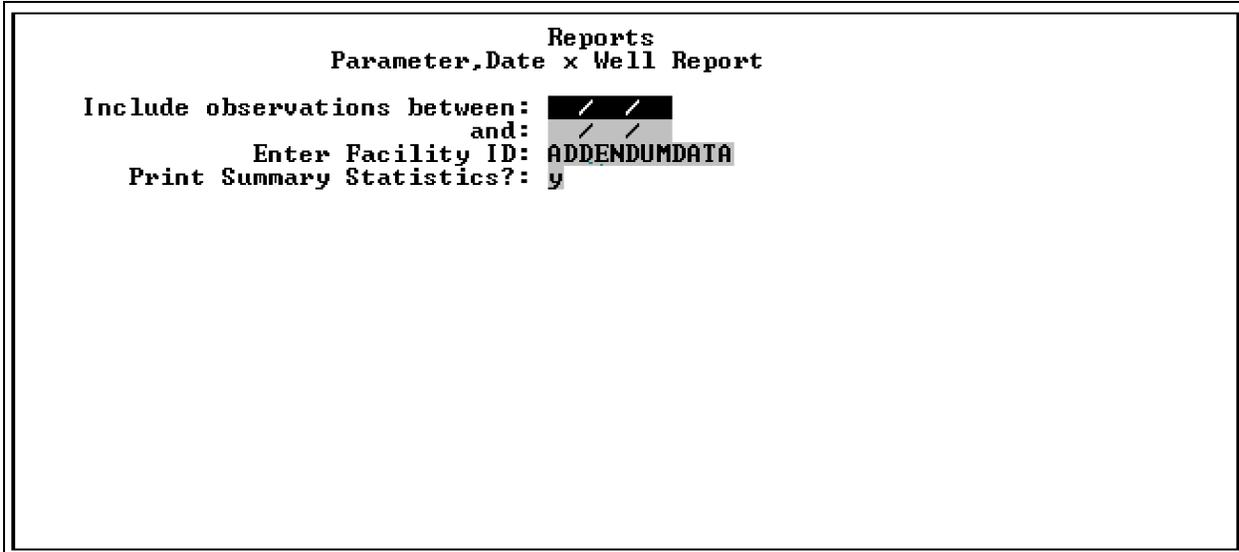

Figure 10-95. The **Parameter, Date and Well Report** dialog.
1. Use the up and down arrow keys to highlight the **Parameter, Date x Well Report** option of the **Groundwater Reports** menu and press **<Enter>**. The **Parameter, Date x Well Report** dialog appears on your screen as shown in Figure 10-95.